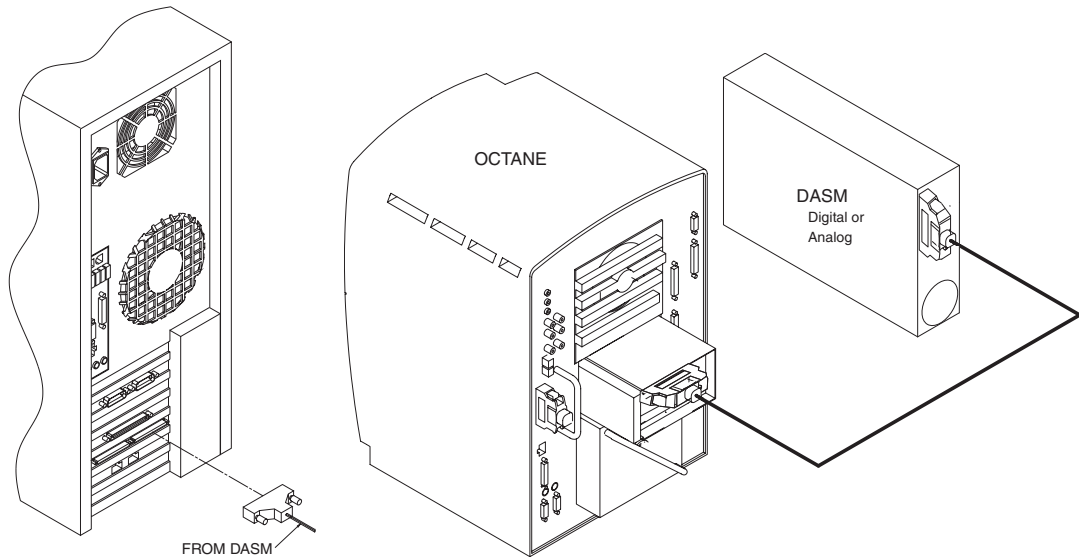

Figure 2-16 SCSI Cable Connection for DASM (HP xw8000 at left, Octane at right)
6.) Attach the free end of the SCSI cable to the rear of the Host Computer (see Figure 2-16).